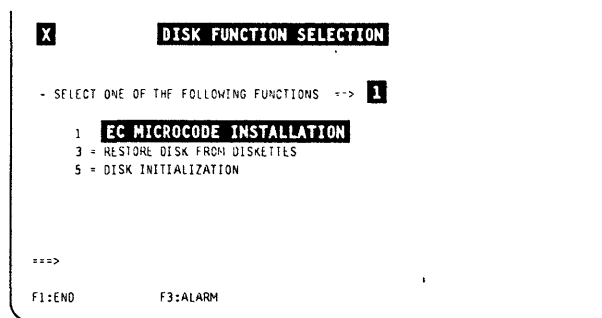

Figure 11-24. Disk Function Selection Screen (IML from Diskette)
5. At the IML end, you should be in the DIF function (automatic with diskette IML, see page 11-4 and Figure 11-24).